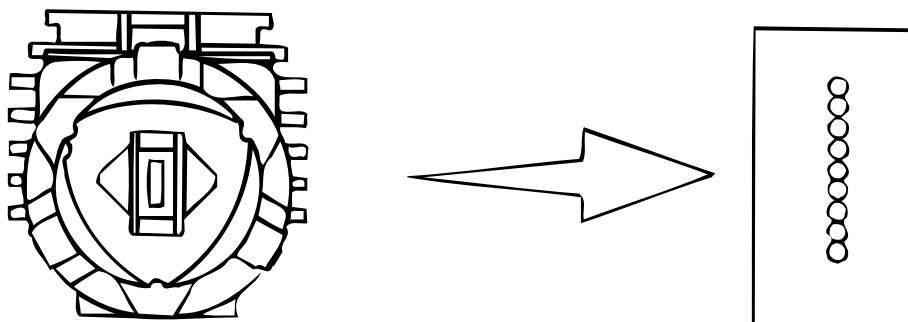

Figure 2-2 Arrangement of the head pins
2.2.1 Printhead Mechanism and Operation (See Figure 2-2.)